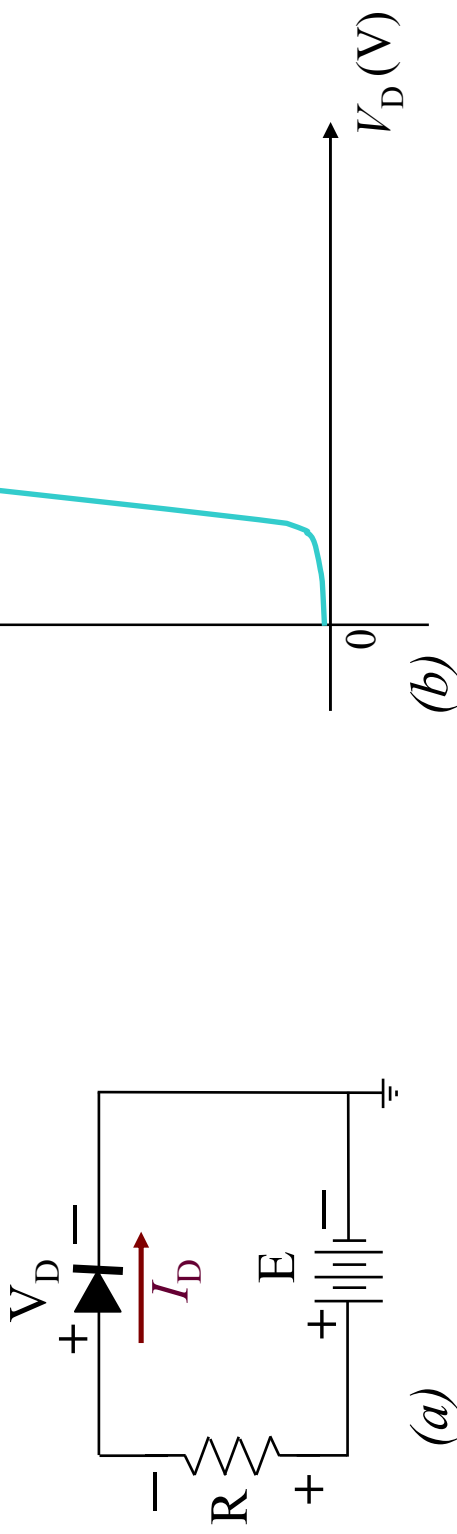

Fig.12: Series diode configuration: (a) circuit; (b) characteristics
- ◆ The circuit of Fig. 12 is the simplest of diode configuration.